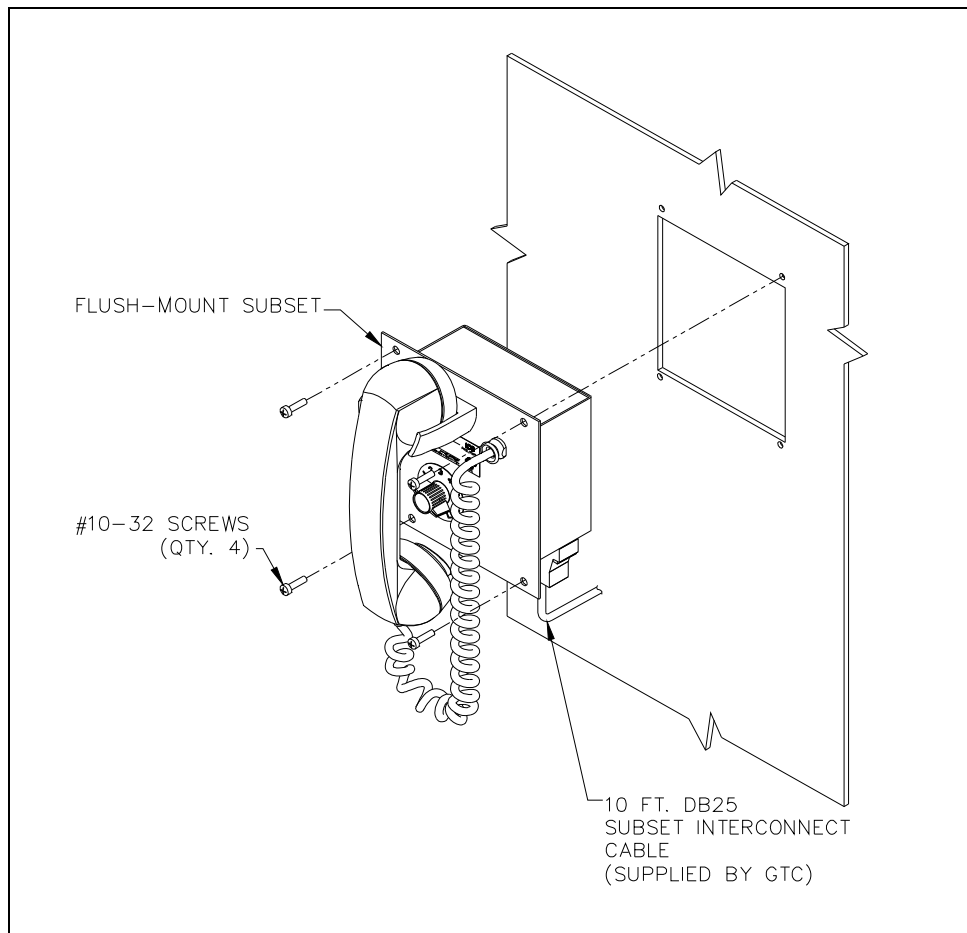

Figure 4. Typical Flush-Mount Installation
5. Secure the subset to the mounting surface using four #10-32 screws through the mounting holes (see Figure 4 for a typical installation).